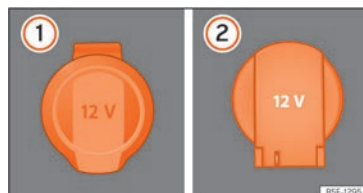

Fig. 147 12 volt power socket: ① inside the front armrest, ② in the luggage compartment.
- Lift the power socket cover »» **Fig. 147 ①**.
- Lift the power socket cover »» **Fig. 147 ②**.